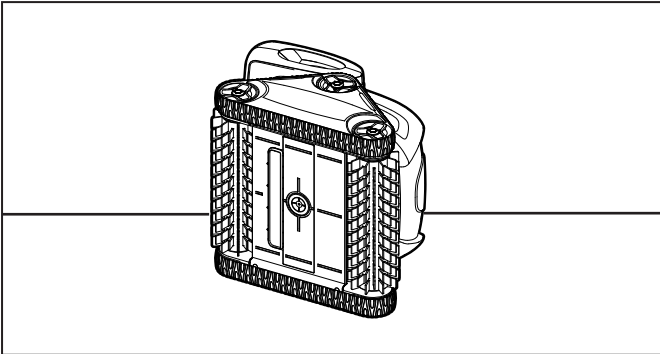

Figure 29. Stand Cleaner on its Side
1. Stand the cleaner on its side (Figure 29).